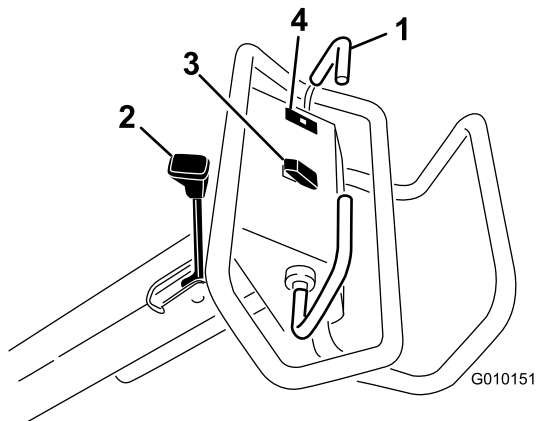

Figure 13
To move forward, move the traction bail forward. To move rearward, move the traction bail rearward (Figure 13).
- To engage the parking brake, move the parking-brake lever toward the operator handle (Figure 13).
The oil-pressure warning light (Figure 13) illuminates when the engine-oil pressure drops below a safe level. If low oil pressure ever occurs, shut off the engine and determine the cause. Repair the damage before starting the engine again.
**Raise**—Press the top of the switch (Figure 13) to raise the coring head and disengage the coring head. The engine must be running to generate lift pressure. If the coring head is below the transport height, refer to Resetting the System Control Circuit \(page 26\).
**Lower/Engage**—Press the bottom of the switch (Figure 13) to lower and engage the coring head. The traction bail must be in the forward position to activate the switch.